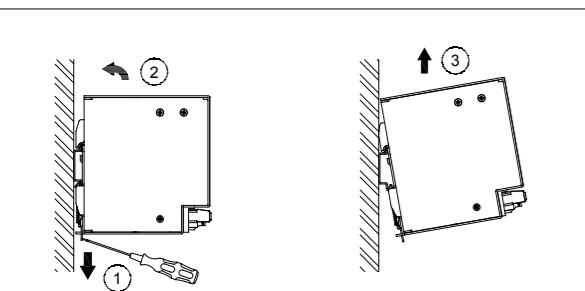

Figure 3
4. Dismounting (Fig. 3)
To uninstll, pull or slide down the latch as shown in Fig. 3. Then, slide the PSU in the opposite direction, release the latch and pull out the PSU from the rail.